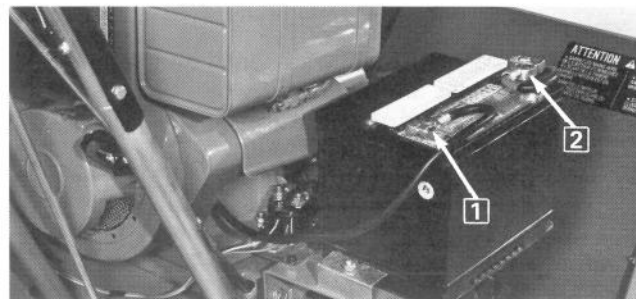

Figure 13
26. Set battery onto mounting plate of snow thrower. Battery posts must be to the outside, not toward the fuel tank (Fig. 13). Allow about one inch of the battery to extend over outside of mounting plate (Fig. 13).
27. Push clamp at end of black battery cable, which is grounded to engine, onto smallest diameter, negative (-) battery post (Fig. 13). Tighten clamp retaining nut. Next, push clamp at end of black battery cable with red band, which is con-
ected to the solenoid, onto the largest diameter, positive (+), battery post (Fig. 13). Tighten clamp retaining nut.
Note: Battery cables must be specially routed on and around the battery (Fig. 13).